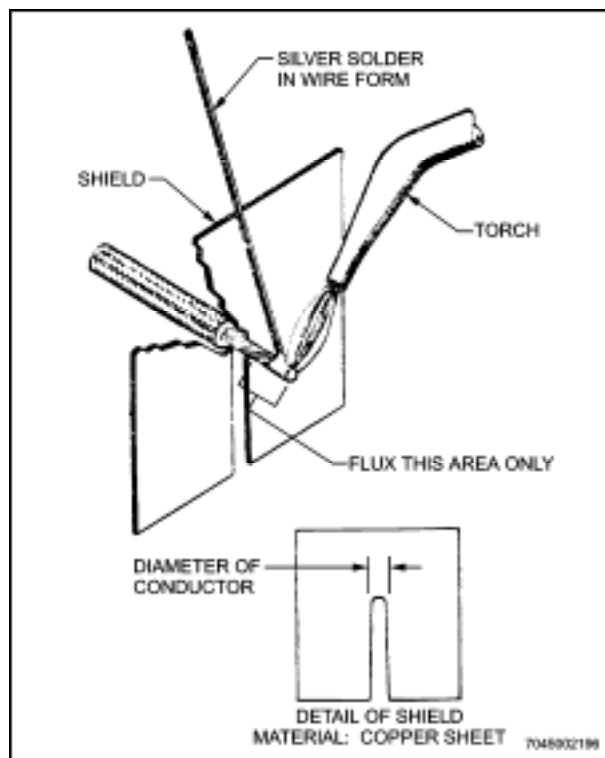

Figure 16-7 Torch Tinning Thermocouple Wire
13. Before wires are soldered to terminals or other connections, they are tinned. The inability to obtain a good tinned surface indicates that the wire was not clean. The procedure for torch tinning is as follows (see Figure 16-7):